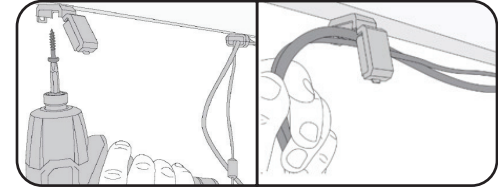

fig 4.4
- Secure the cable management clip with a screw, place all wires into the clip, and securely close the clip. (fig 4.4)